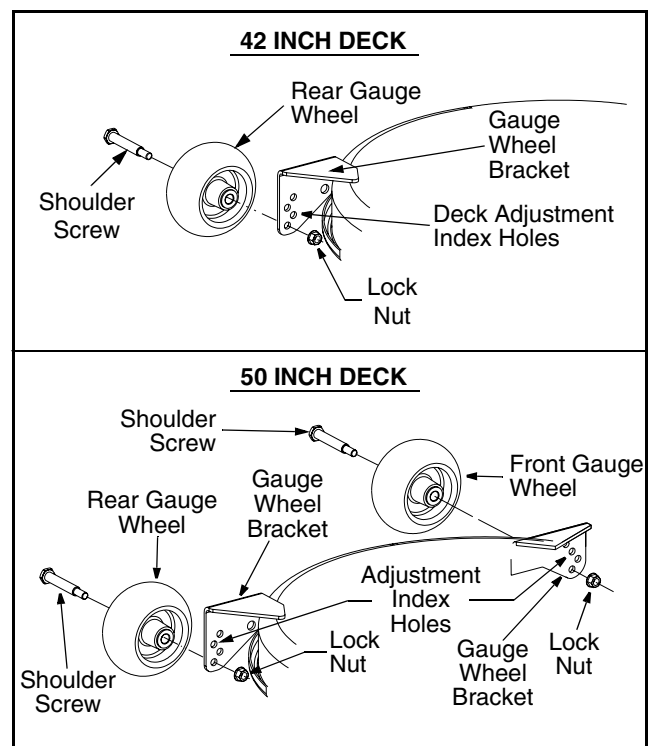

Figure 33
- Remove the lock nut securing one of the gauge wheel shoulder screws to the deck. Remove the gauge wheel and shoulder screw. See Figure 33.